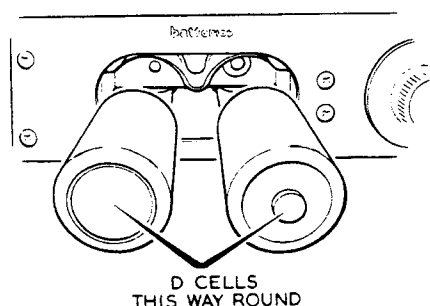

Figure 6
11. Check that the two "D" cells are correctly fitted the right way around in the battery box, Figure 6.
Although the flue tube is constructed from heavy steel and will give many years of satisfactory operation if kept clean, the burner flame, if not correctly positioned or if partially blocked, can quickly cause soot formation which can impair operation. Any obstruction in the flue will reduce draft and can result in higher cabinet temperatures and other faulty operation. It is advisable to clean the flue at least twice a season so it will be kept free of dust and soot. To do this, it will be necessary to remove the top louvers and then proceed as follows: Remove the metal burner housing and cover the burner assembly with a rag so that loose dirt will not fall into the burner. Remove the flue baffle Fig. 6 by lifting on the baffle support wire until it is out of the flue tube. From the top, clean the flue with a suitable wire brush. Clean the baffle before replacing.